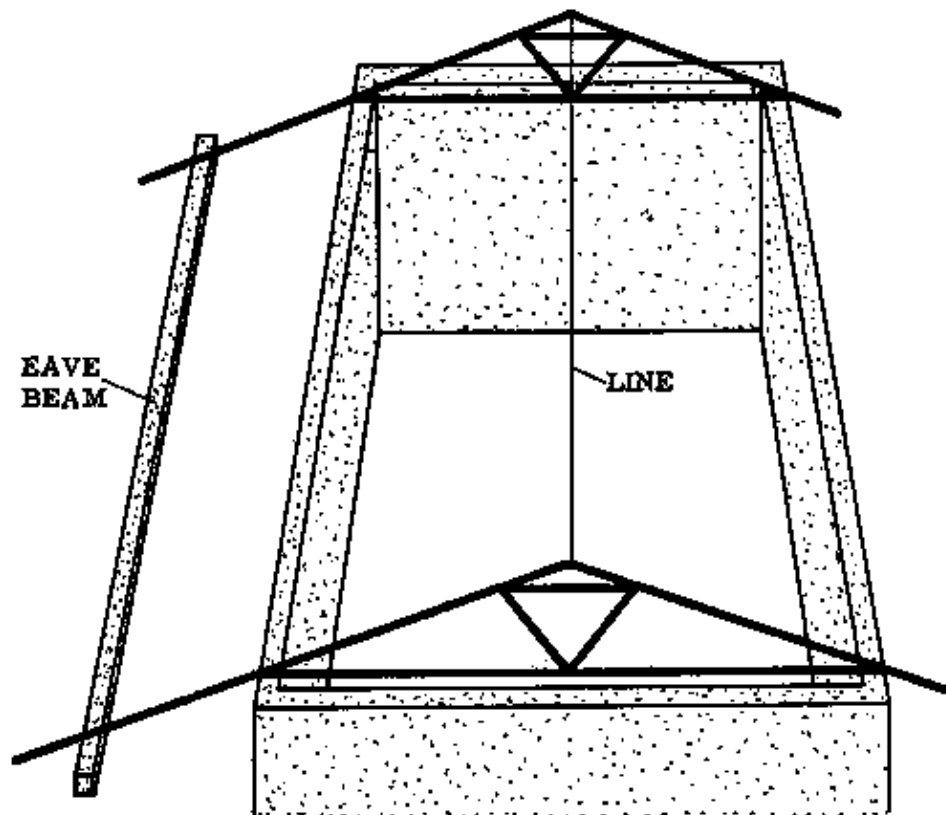

Fig. 2
b. Turn the trusses over and plumb them (Fig. 2).
- d. Fix a line from one ridge to the other (Fig. 2).